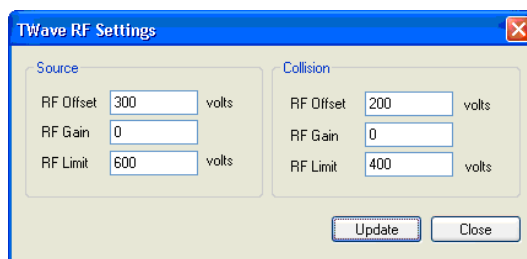

Figure 48 - RF Settings
2. Set the RF Settings as in Figure 48.